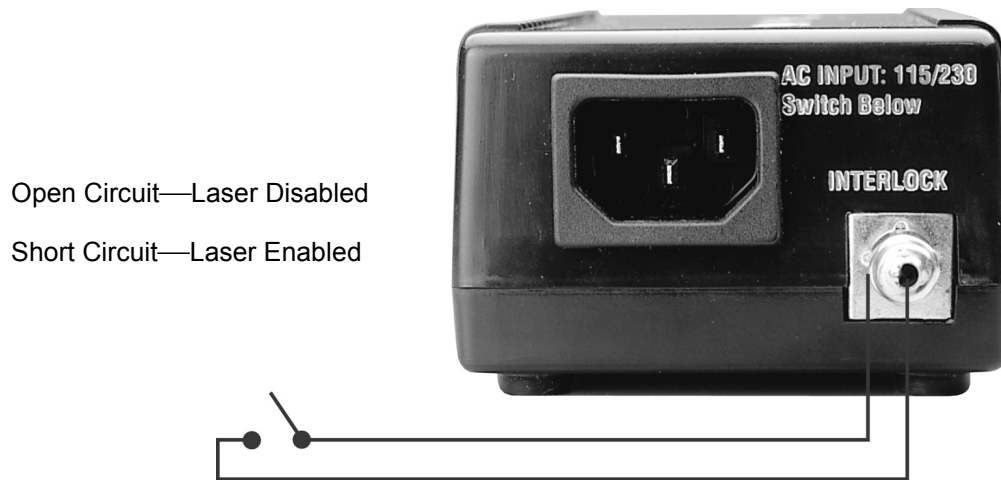

Figure 10. Remote Interlock Switch Wiring
5. Connect the appropriate interlock to the interlock input (Figure 10).
- a. To enable the power supply for remote operation, wire the external interlock switch into the interlock input (Figure 10).